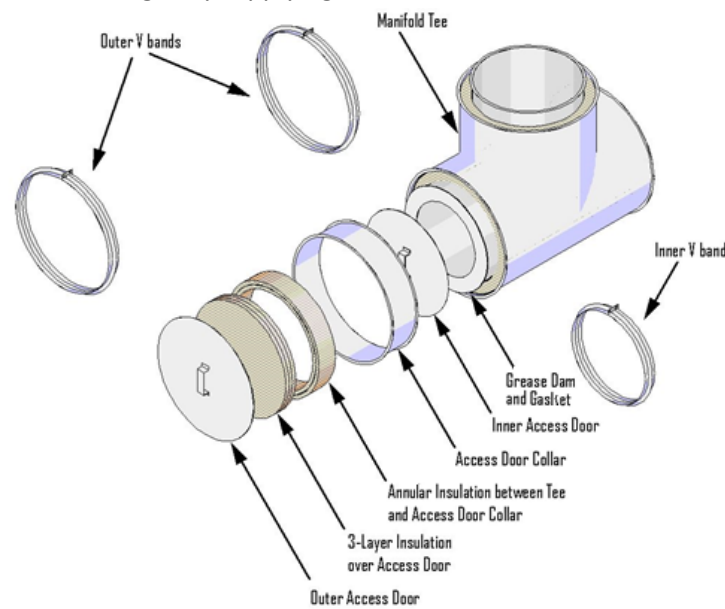

Figure 2. Access Door Assembly
- B. ACCESS DOOR – When required, use the duct manufacturer's manifold tee and access door (tee cap) assembly (see Figure 2). Apply a 1/4 in. continuous bead of sealant (Item 2A) to the inner flange of the tee on the side where access door is to be located. Center the supplied grease dam over the opening of the tee. Verify that the grease dam is sealed to the tee flange by applying